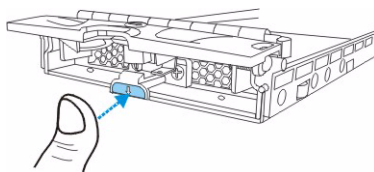

Figure 6.2 Opening Drive Tray Front Flap
2. Open the front flap on the drive tray by pushing the button on the front of the drive tray. The button is easy to access. (See *Figure 6.2*)